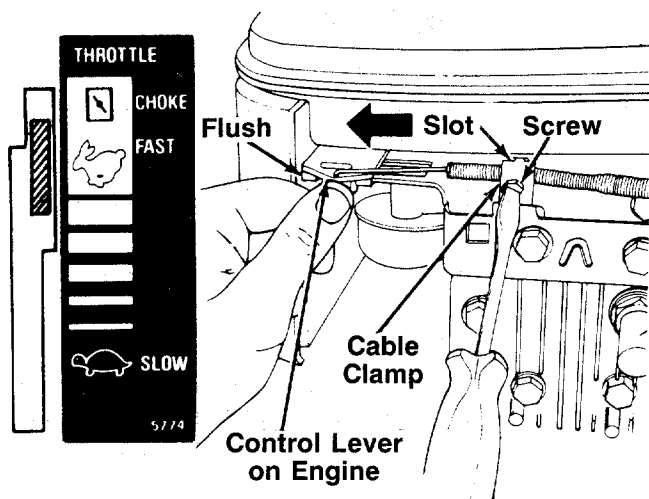

FIGURE 9.
1. Push the throttle control lever on the handle all the way forward to **CHOKE** position. See figure 9.
2. The throttle control cable is attached to the upper handle. Route the throttle control cable under the lower handle and inside the handle mounting bracket. Hook the "Z" end of the throttle control cable into the hole in the control lever on the engine. See figure 9.
3. Using a 5/16" wrench or nutdriver, remove the screw on the cable clamp shown in figure 9. Slip the control cable under the clamp. Replace the screw (cable should be above the screw), but do not tighten screw (cable must still move freely beneath the clamp). Make certain the tab on the cable clamp is seated into the slot on the engine. See figure 9.
4. Push the control lever on the engine as far toward the **outside** of the engine as it will go. The edge of the control lever should be flush with the bracket on the engine. See figure 9. Hold the control lever in this position as you tighten the screw on the cable clamp to secure the throttle cable.